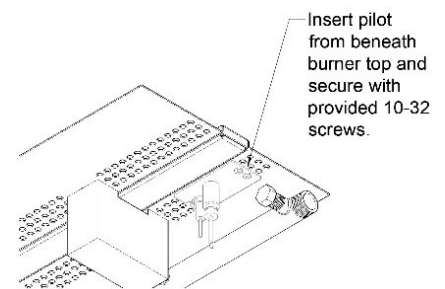

FIGURE 8
- 11) Insert the pilot assembly from underneath the existing burner pan to the area of the removed burner section. **(Figure 8)**